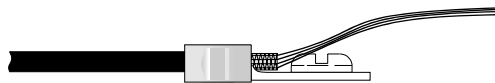

Figure 3b
- 3). Next, crimp the lug on to the cable shield, do not crimp too tight and risk smashing the wires. This could cause them to short to ground. Figure 3b shows a side view of the completed operation after crimping.